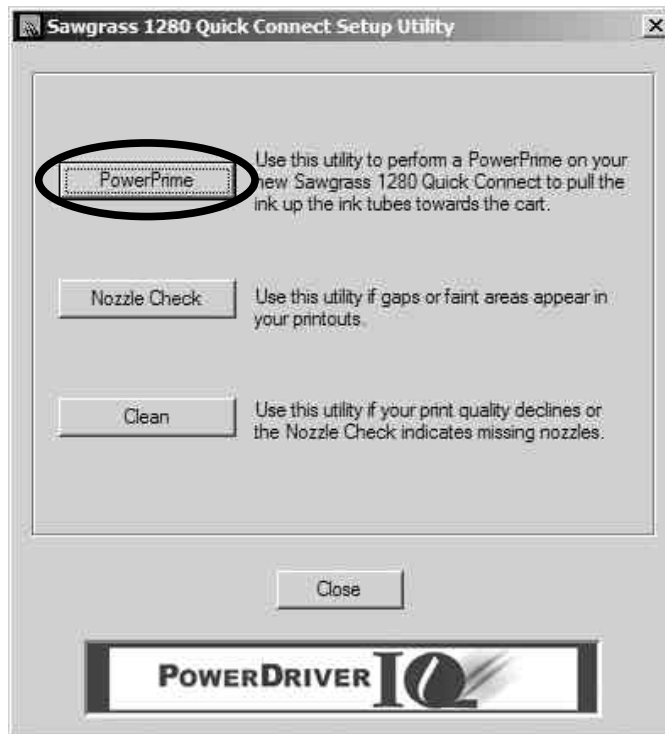

Fig 4
- v. On the QC Utilities screen, click the PowerPrime button; see Fig 4.